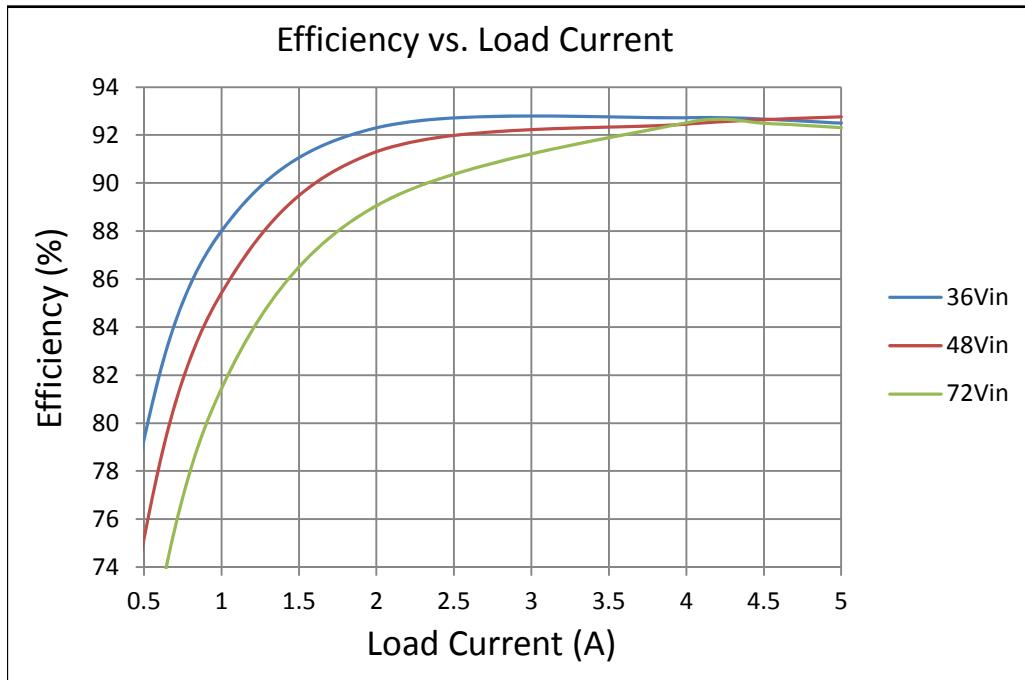
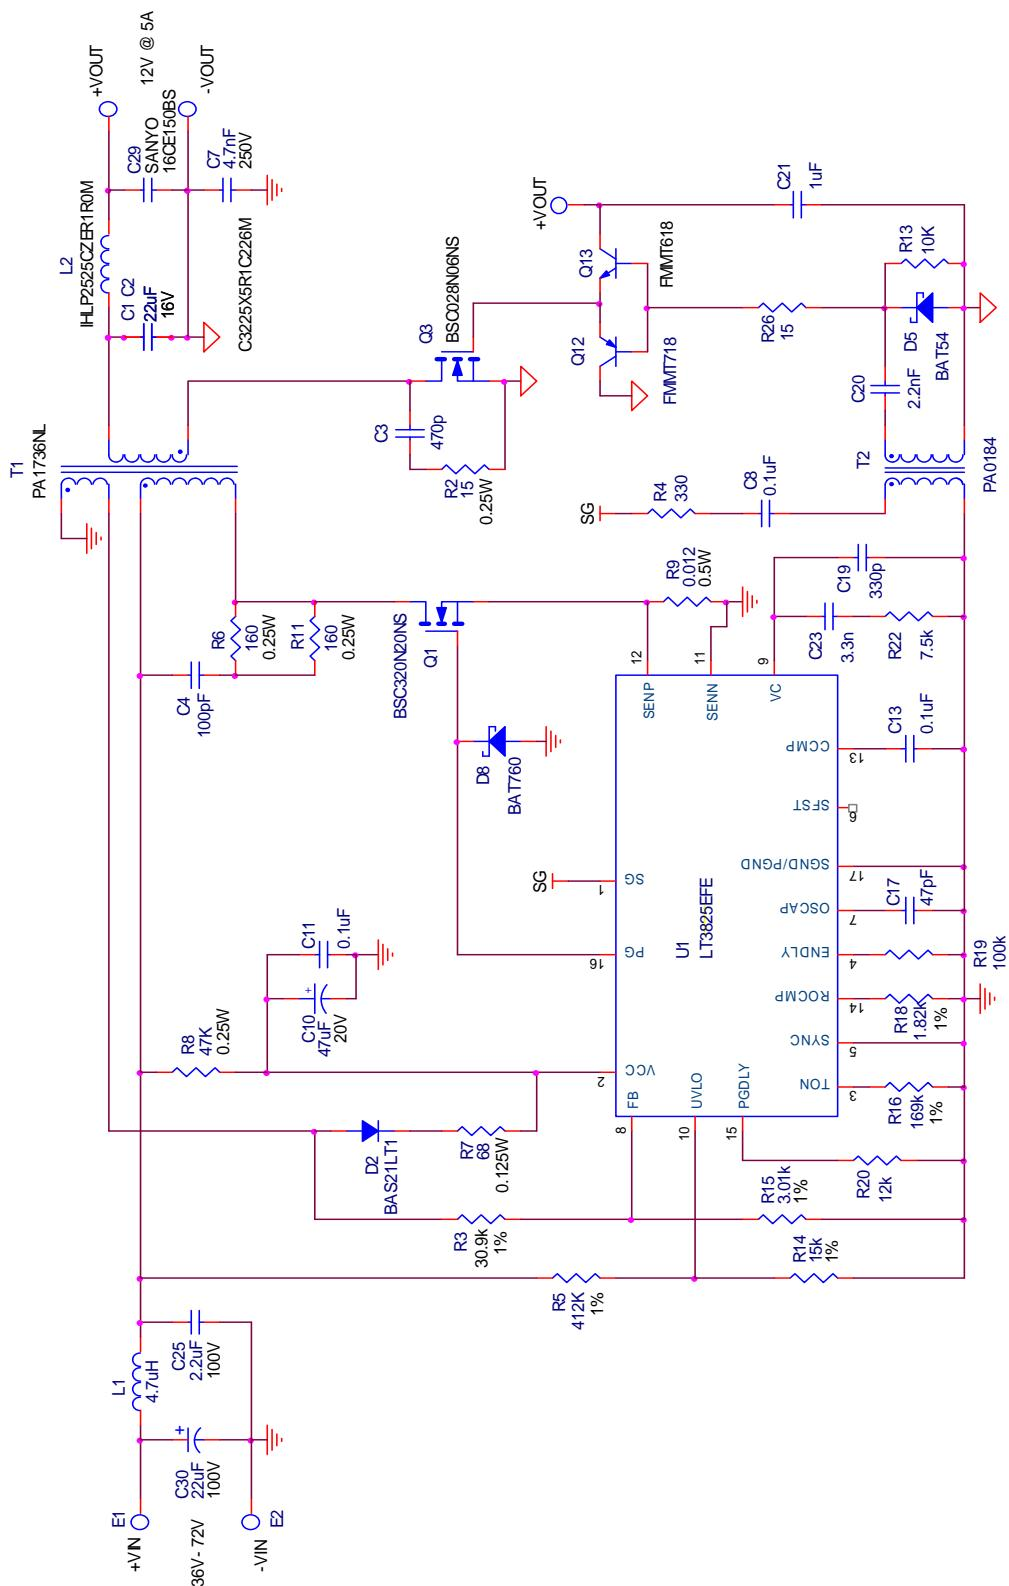

Figure 3. Efficiency
Figure 9. Simplified Schematic
The LT3825 controller exhibits a self-starting capability. When an input voltage is applied, a trickle charge resistor, R8, charges C10 (See Figure 9) to power Vcc. Then, the IC begins a controlled soft-start of the output voltage. As this voltage begins to rise, Vcc power is quickly taken over by T1, D2, and R7. When the soft-start period is over, the LT3825 then regulates output voltage by observing the pulses across the auxiliary winding of T1 during the flyback time. The Primary Gate drive (PG) and Synchronous Gate (SG) drive is then Pulse Width
Figures 3 through 8 are measured data for a typical DC894C-C. Figures 9 through 11 are schematics and bill of materials